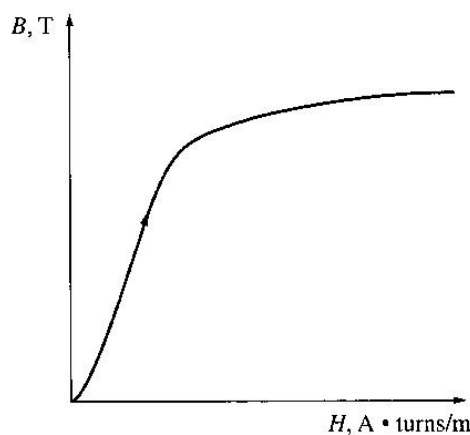

Fig. 16, B-H curve for ferromagnetic materials
Look at the magnetization curve and B-H curve shown in Fig. 16, where the flux density (B) produced in the core is plotted versus the flux intensity (H) producing it. This plot is called a **magnetization curve**. At first, a small increase in H produces a huge increase in B. After a certain point, further increases in H produce relatively smaller increases in B. Finally, there will be no change at all as you increase H further. The region in which the curve flattens out is called saturation region, and the core is said to be **saturated**. The region where B changes rapidly is called **the unsaturated region**. The transition region is called the 'knee' of the curve.